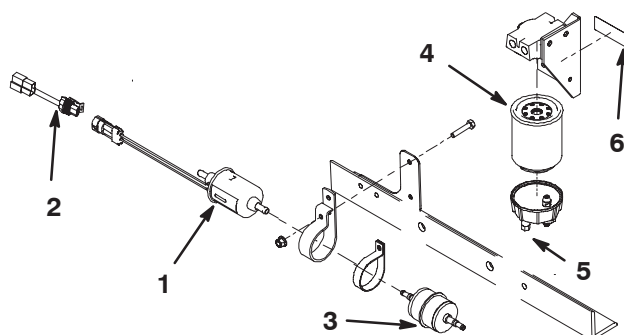

Figure 9
- On the Reelmaster 5200 and 5400 only**, mount the fuel pump and clamp to the machine with a 1/4 x 1-3/8 inch capscrew and a 1/4 flange locknut. Make sure the flange locknut is positioned on the clamp side (Fig. 9).